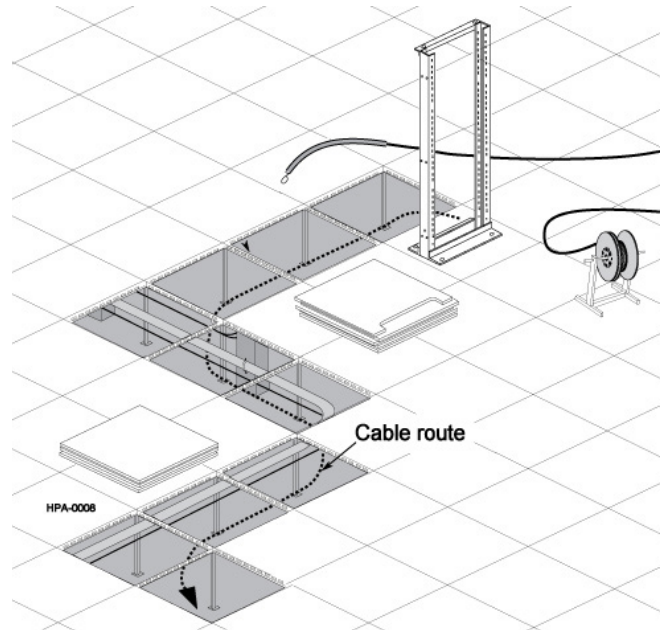

Figure 4— Reel Stand and Cable Route
Step 2: Place the cable reel on a reel stand so that the pulling grip/cable will pay-off the top of the reel (Figure 4).